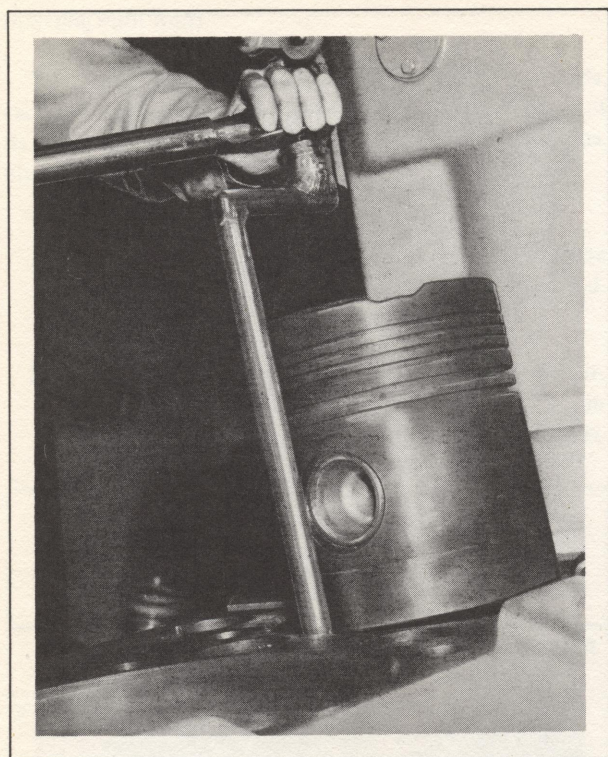

FIG. IX-72. LOOSENING PISTON PIN BOLTS.
3. Using a piston pin bolt wrench, Part 147X1841, and a piston pin bolt socket, Part 147X1511, use a 3/4-in. drive ratchet to loosen the piston pin bolts, Fig. IX-72.